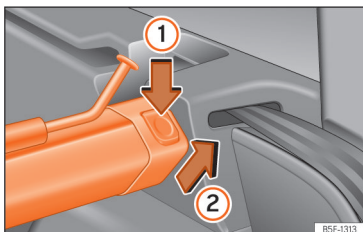

Fig. 185 In the boot: removing the partition net.
- Press the left or right release catch >>> Fig. 185 in the direction of the arrow ①.
- Remove the casing from the support in the direction of the arrow >>> Fig. 185 ②.
- Press the casing into the left and right supports in the opposite direction to the arrow >>> Fig. 185 ② until it engages. The red markings on the release buttons should no longer be visible.